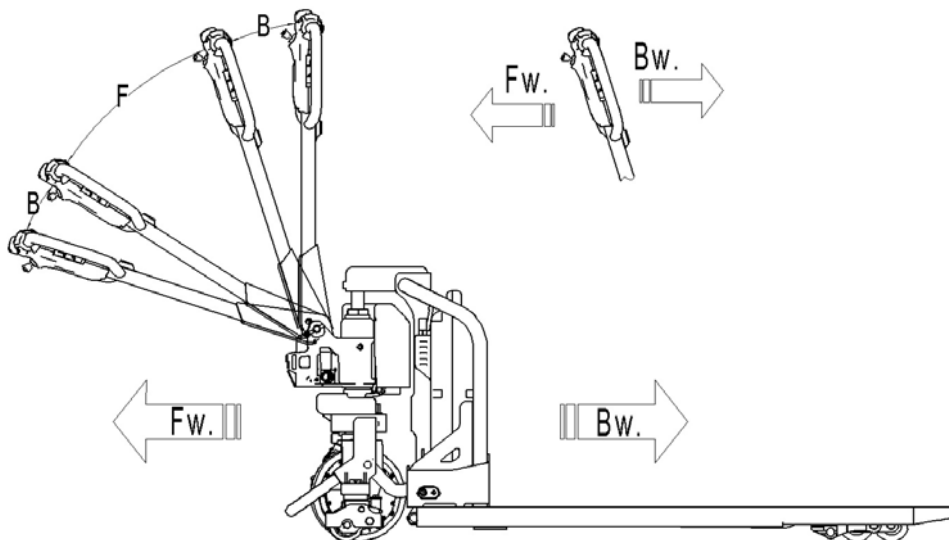

Fig. 9: Operating direction
Connect the battery plug (11), insert the key and turn the key switch (13) clockwise, move the tiller to the operating one ('F', fig.9).
Turn the accelerator button(2) to the desired direction forward 'Fw.' or backwards Bw.'(fig. 9).